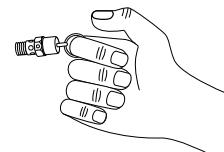

Figure 8
- Pull ring on safety valve and allow the ring to snap back to normal position (See Figure 8). This valve automatically releases air if the tank pressure exceeds the preset maximum.